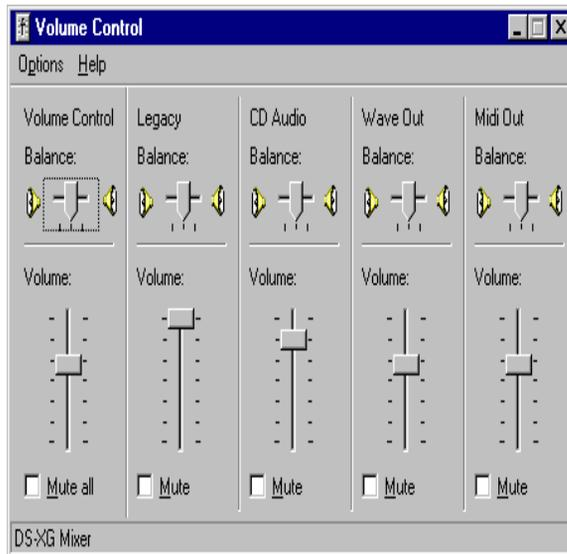

Figure 3-1 The Volume Control Window
- 2) The DS-XG mixer control starts and the *Volume Control* window is displayed as shown in Figure 3-1 below.